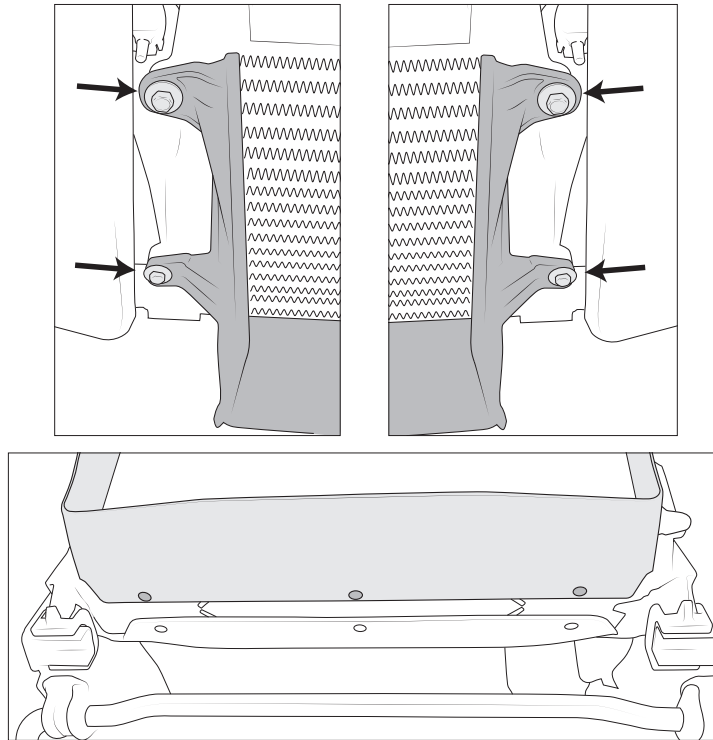

Figure 10
13. Remove the front intercooler shroud and save hardware (fig. 10)